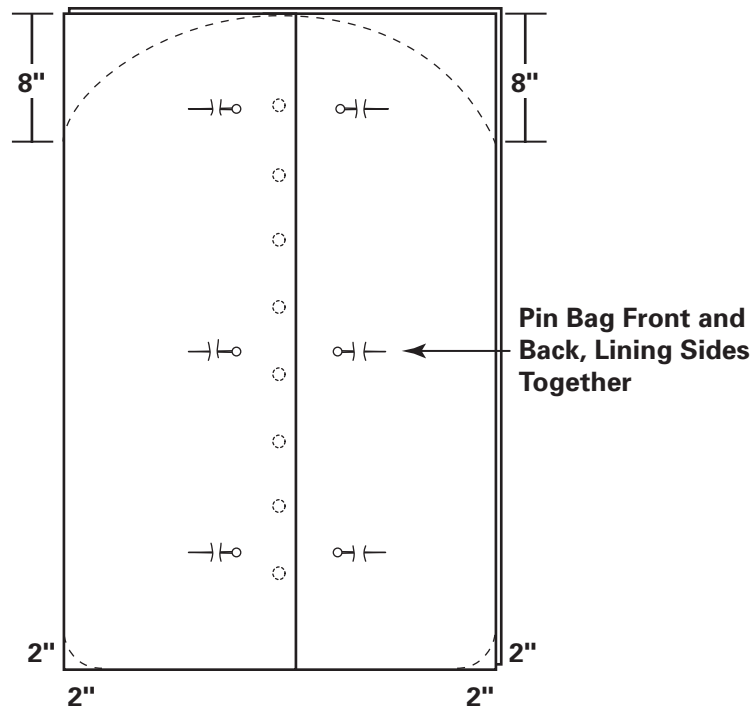

Fig. 21-5
8. Place the back panel, lining side up, on a flat surface. Place the front panels, lining side down, on top of the back panel with outer edges even. Pin the front and back together to keep the fabrics from moving. Draw curves on the upper and lower corners as shown. (Fig. 21-5) Cut through all layers on the marked lines.